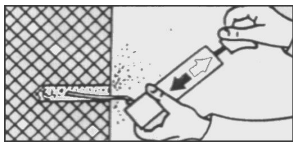

FIG.3
3. Remove dust and debris from hole (Fig.3)